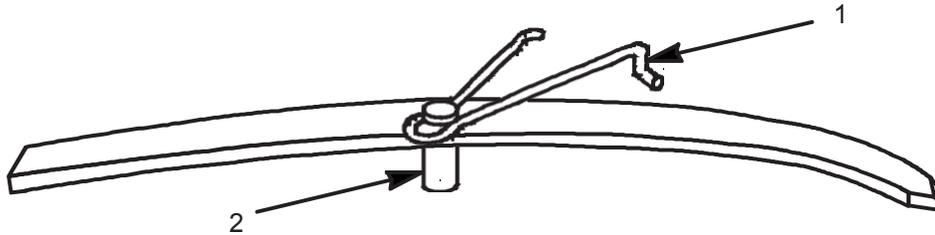

Figure 33. New Retaining Clip, Ejector Pin.
8. Position new retaining clip (Figure 33, Item 1) with hooked leg up and to the right. Snap retaining clip (Figure 33, Item 1) into notch of ejector pin (Figure 33, Item 2).